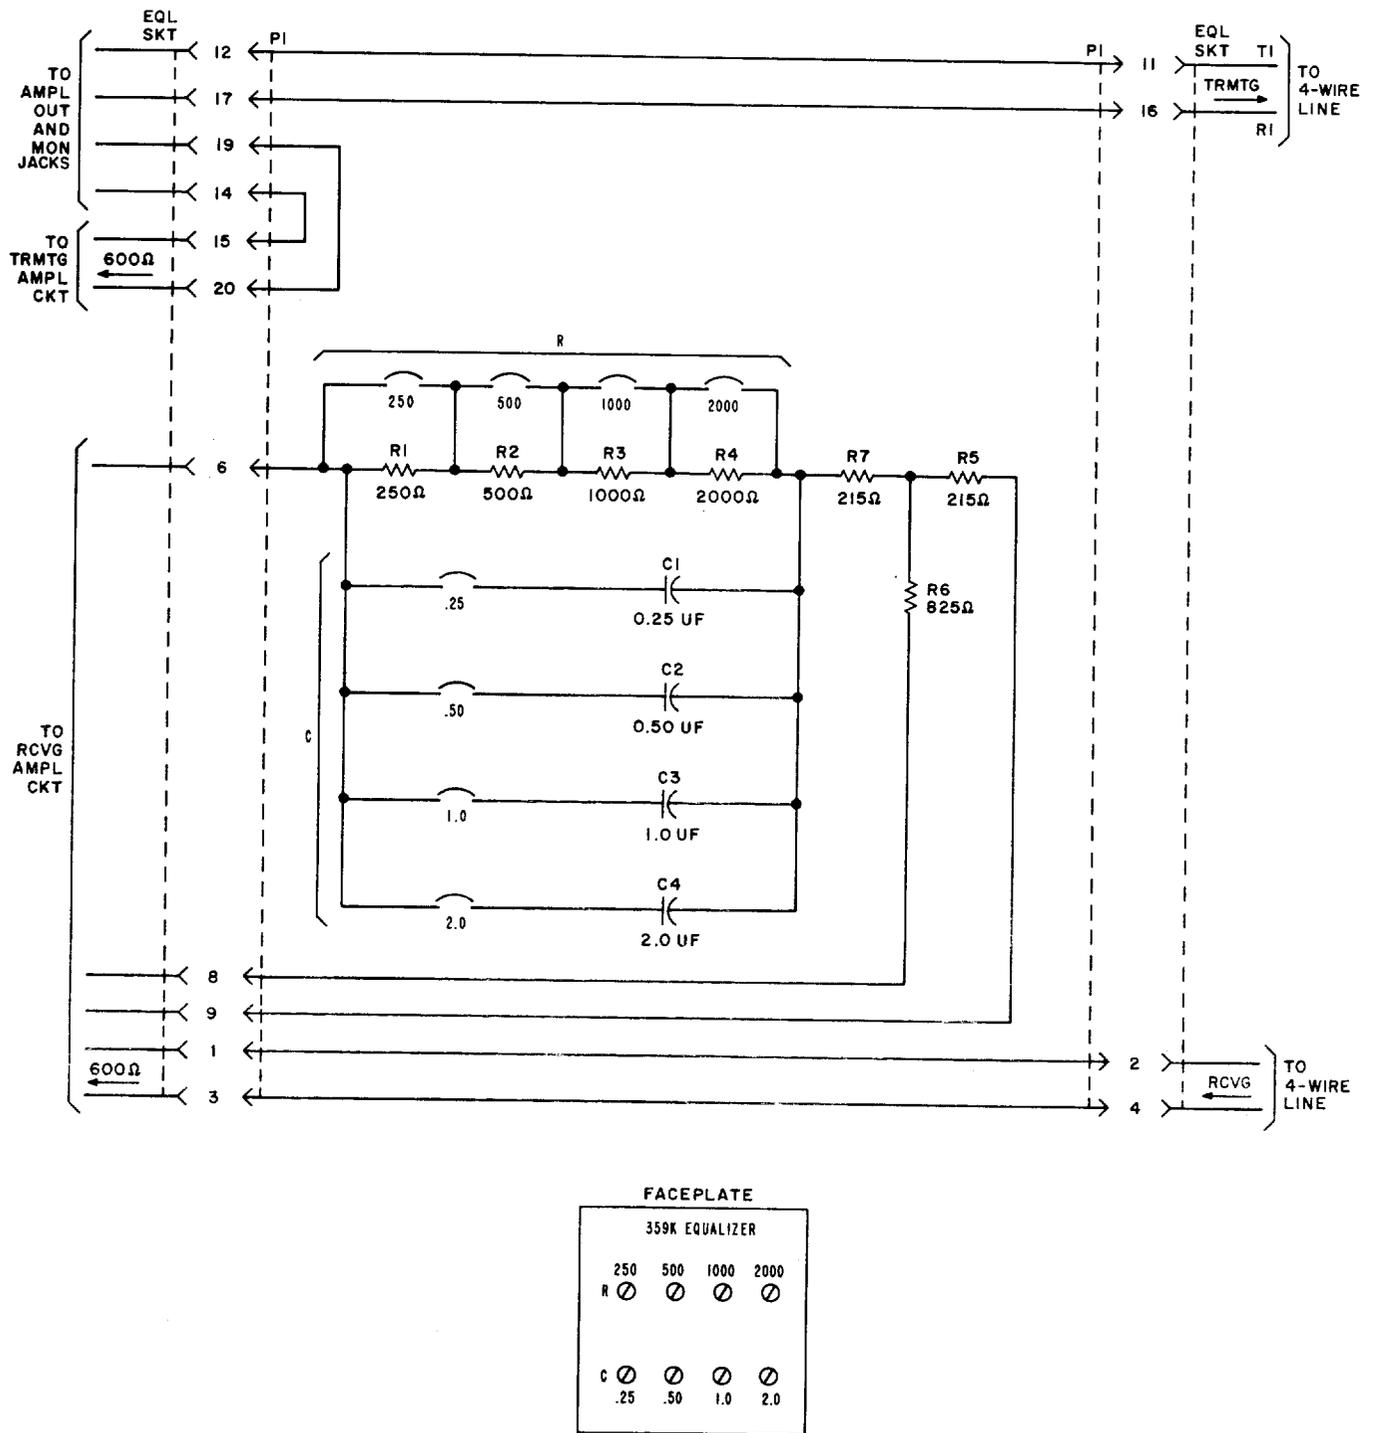

Fig. 3—359K Equalizer—Schematic and Typical Circuit Connections
3.02 Figure 3 is a schematic of the 359K equalizer illustrating typical circuit connections when plugged into the equalizer socket of a 24V4 or 44V4 repeater. The transmitting side is strapped to provide connections to the AMPL OUT and MON jacks and also connects the 600-ohm transmitting amplifier output to the 4-wire line (H44-loaded cable).